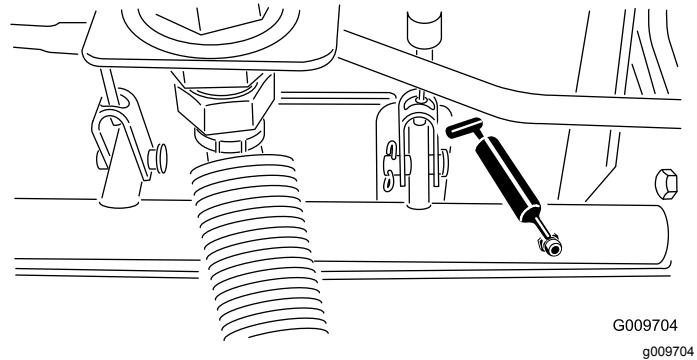

Figure 48
- Brake-shaft pivot bearings (5) (Figure 48)